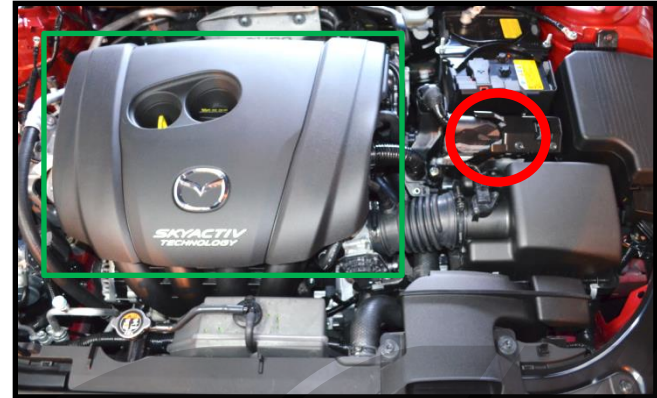
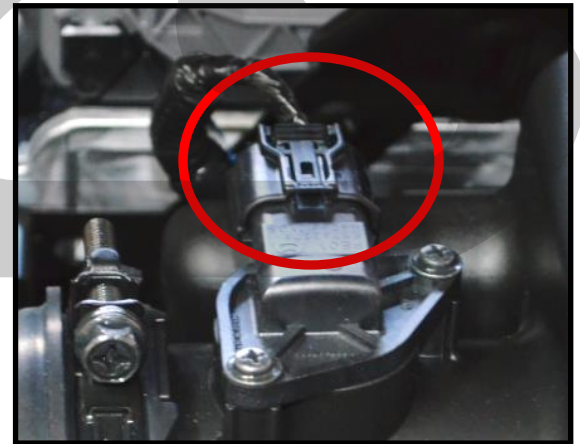

Figure 1a
Figure 1b
a) **Remove Engine Cover** by pulling up on it. There are no screws that hold it down. This will help when loosening the intake clamp (shown in green square Figure 1a).
b) **Unplug MAF sensor** (shown in Figure 1a with a red circle and in Figure 1b close up). Press down on the latch and the sensor will unplug.